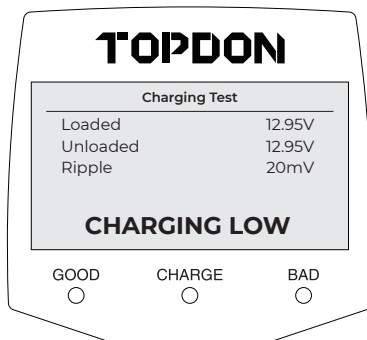

Figure 4.3.6
5) Press "Enter" and then the result will show as below (See Figure 4.3.6).